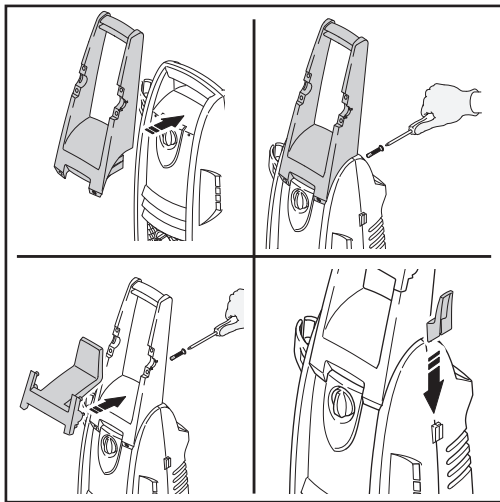

Fig.1
- Install the plastic accessories holder on the back of your **BLUE CLEAN POWER WASHER** (Fig.1). You'll notice where the accessories holder meets the back of the unit there are several male index posts which fit into female holes. The posts and holes enable easy placement of the accessories holder and easy tightening of the screws. Place the screws in the holes provided on the accessories holder and screw them in. Do not use a power screwdriver. When the screw is completely tight (about four to six turns) give a small final clockwise twist of the screwdriver. Do not overtighten. After the accessories holder is installed you will notice a square "hole" approximately in the middle of the holder into which our square detergent bottle may be stored and easily retrieved if you decide to use a detergent in your **BLUE CLEAN POWER WASHER** (Fig.2).
- Using one of the supplied screws install the small electric power cord holder below the accessories holder so that the "L- shaped holder faces downward. The electric power cord can now be wrapped around the accessories holder and the bottom L-shaped holder while your power washer is not in use (Fig.1)